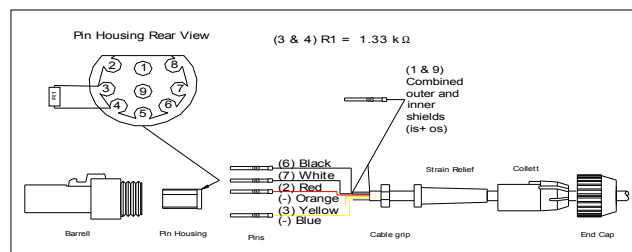

Fig 2.2
10. Solder each leg of the resistor into the rear of 2 separate pins and push pins firmly into correct locations as shown in fig 2.2.
11. Solder the yellow wire to the short side of the resistor, which is to go into location 3, and remaining 3 wires and shields to the rear of 4 pins and push/pull firmly into correct locations shown in fig 2.2.